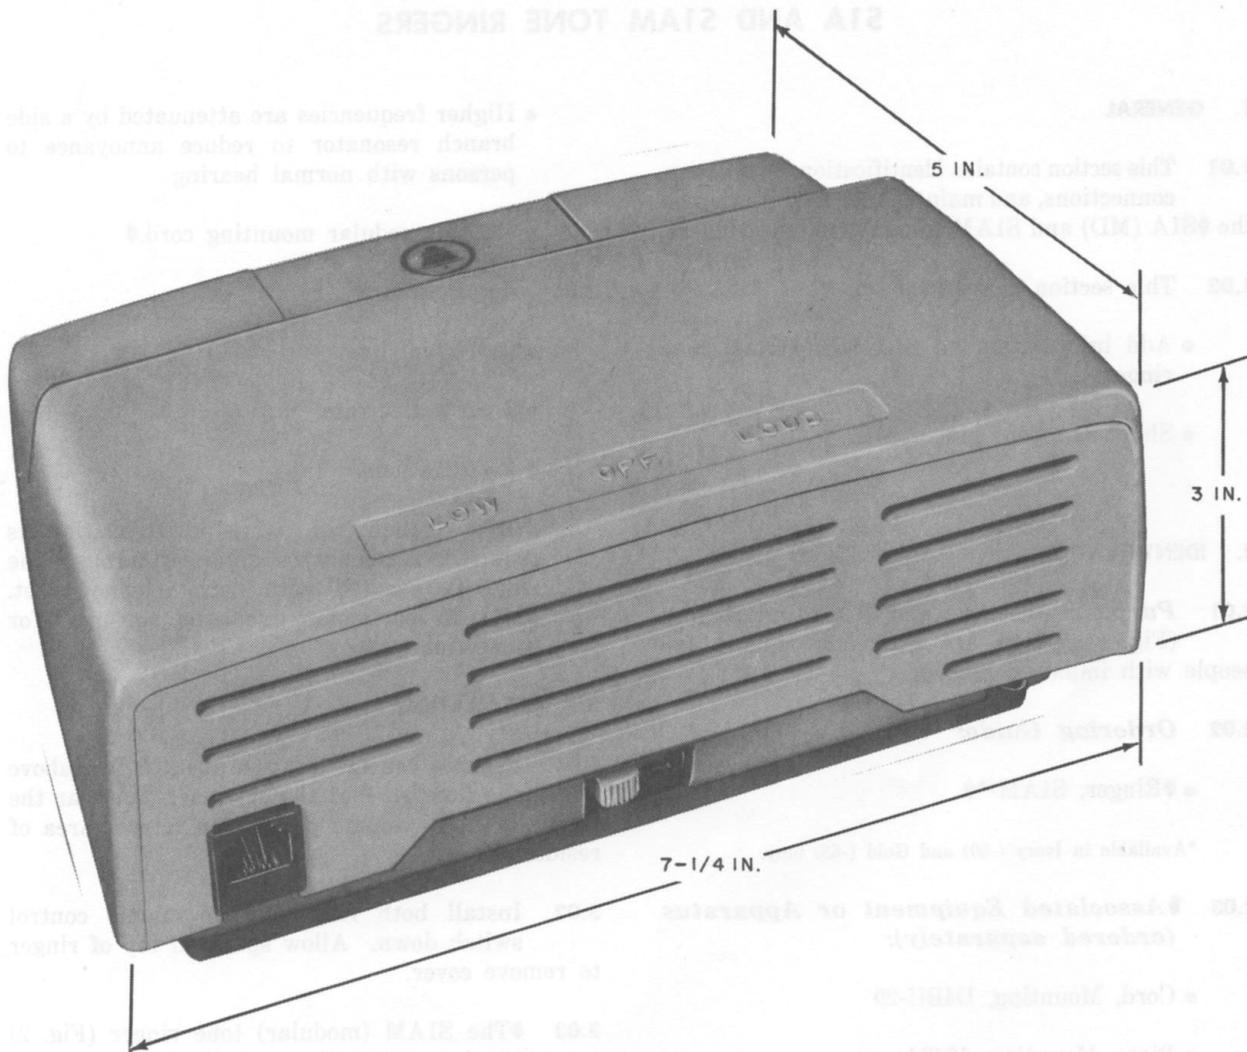

Fig. 1—S1A MD Tone Ringer
2.01 **Purpose:** The S1A and S1AM tone ringers (Fig. 1 and 2) are extension ringers for people with impaired hearing.